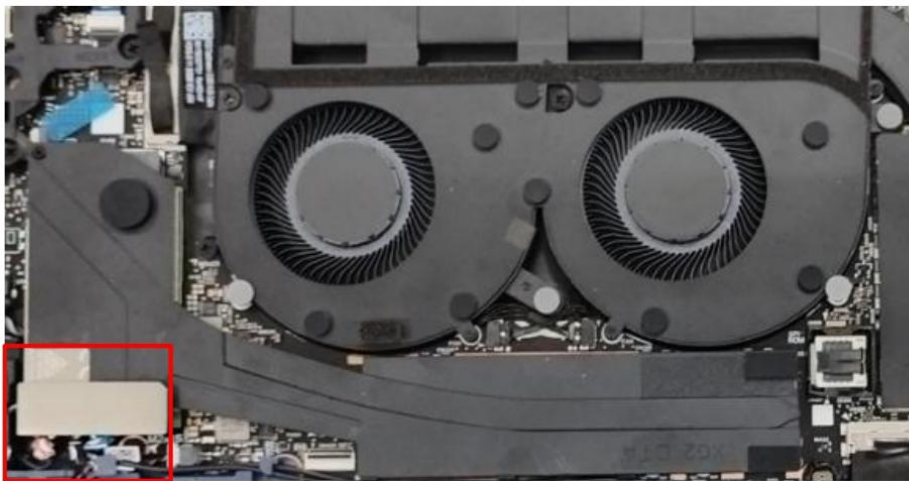

Figure 1
3. **Remove the** absorbing material (6054B3335901) (Figure 1).